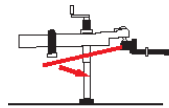

Figure 32
5. With the tension off the spring arms, remove the Snap L-pins and slide the spring arms off the L-bracket. (Figure 32)